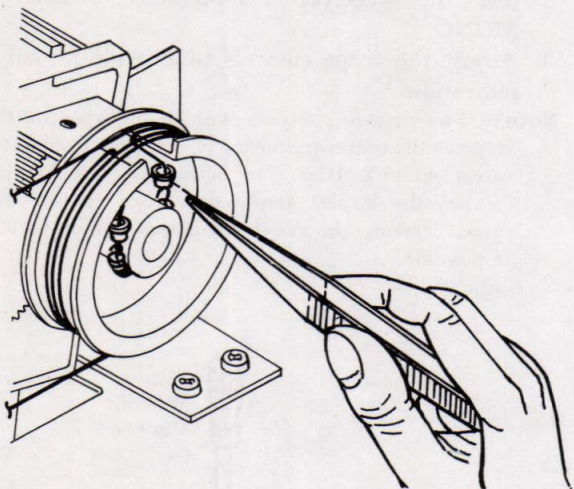

Fig. 2-12 Stretching the tension-spring
10. Pull the cord while stretching the spring with a pair of needle-nosed pliers or tweezers, then place the cord around pulley "C". See Fig. 2-12 and 2-13.